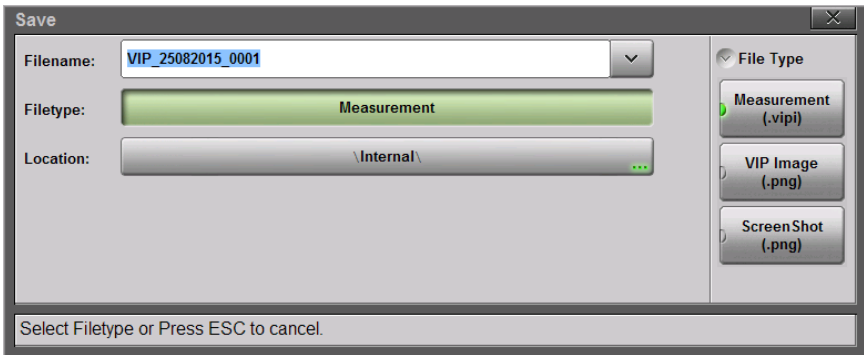

Figure 12-7. VIP File Type
10. To select the type of file to save, press the Filetype button, then press the desired submenu key. See Figure 12-7.